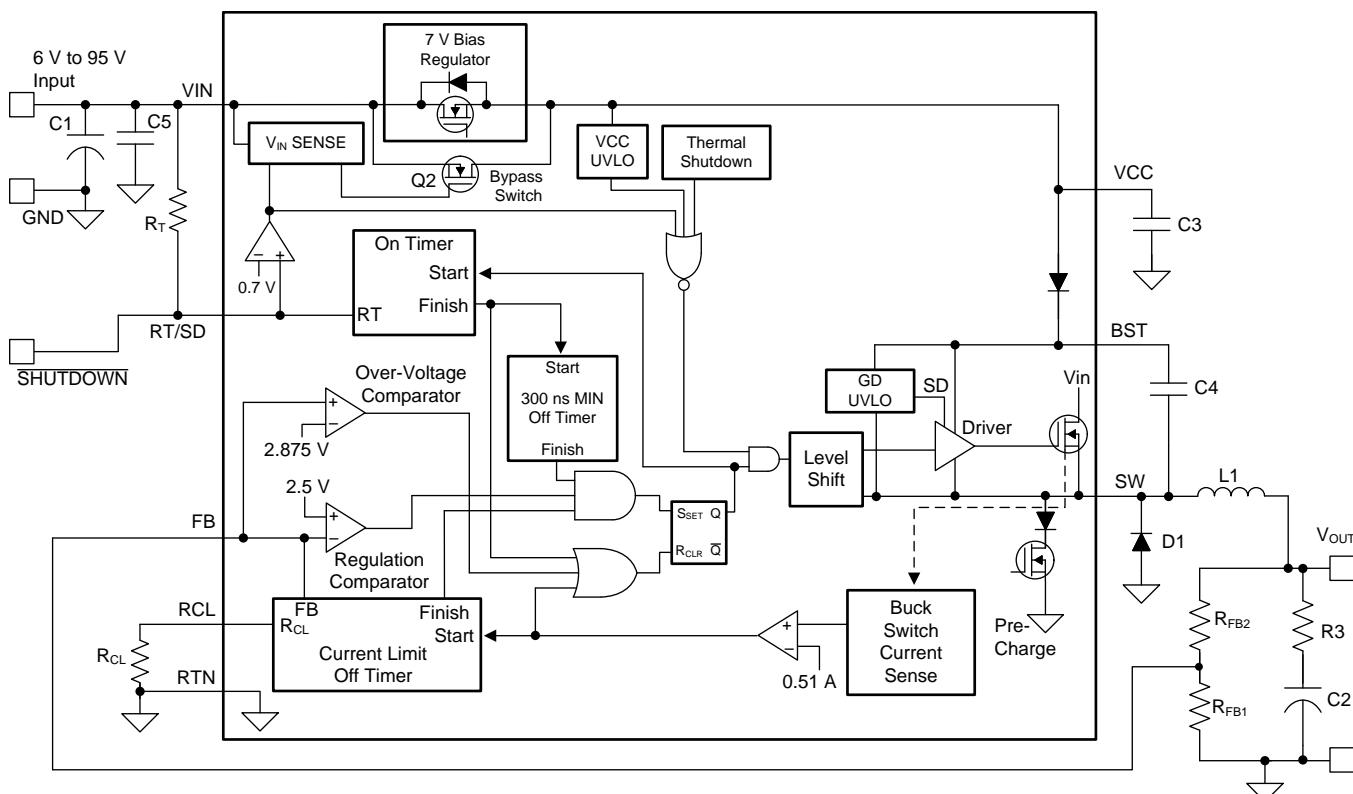

Figure 50. Functional Block Diagram
The output voltage (V_{OUT}) is programmed by two external resistors as shown in Figure 50. The regulation point can be calculated with Equation 7.
The LM5008A regulates the output voltage based on ripple voltage at the feedback input, requiring a minimum amount of ESR for the output capacitor C2. A minimum of 25 mV to 50 mV of ripple voltage at the feedback pin (FB) is required for the LM5008A. In cases where the capacitor ESR is too small, additional series resistance may be required (R3 in the Figure 50).
The high voltage bias regulator is integrated within the LM5008A. The input pin (VIN) can be connected directly to line voltages between 6 V and 95 V, with transient capability to 100 V. Referring to the Figure 50, when V_{IN} is between 6 V and the bypass threshold (nominally 8.5 V), the bypass switch (Q2) is on, and V_{CC} tracks V_{IN} within 100 mV to 150 mV. The bypass switch on-resistance is approximately $100\ \Omega$, with inherent current limiting at approximately 100 mA. When V_{IN} is above the bypass threshold Q2 is turned off, and V_{CC} is regulated at 7 V. The V_{CC} regulator output current is limited at approximately 9.2 mA. When the LM5008A is shut down using the RT/SD pin, the V_{CC} bypass switch is shut off regardless of the voltage at V_{IN} .